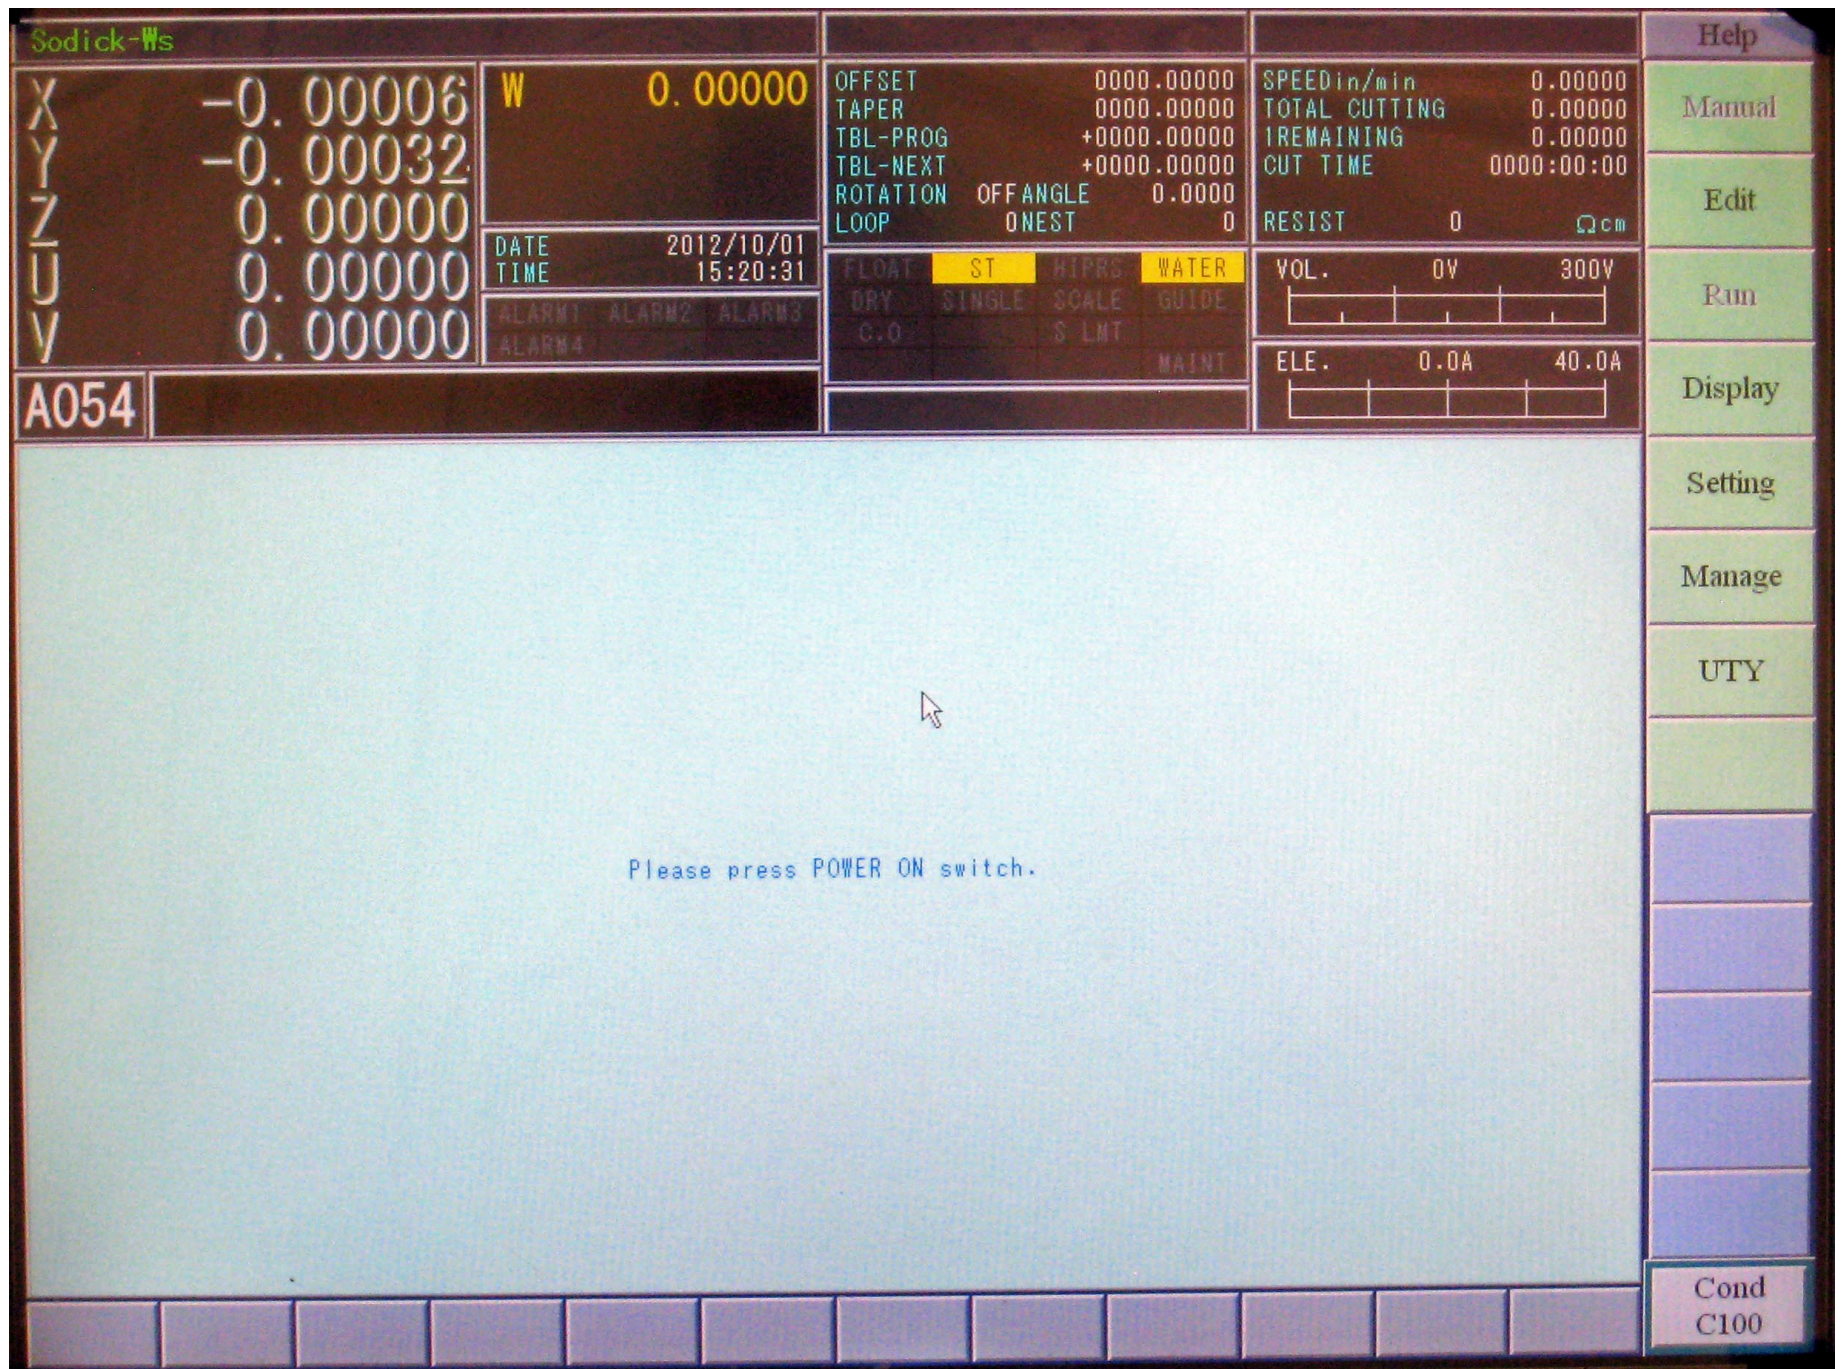

Figure 1 - Power On Screen
4. After the computer has finished coming up the screen shown in Figure 1 will appear. Press the "Power on" button next to the Source on button to supply power to the machine itself.